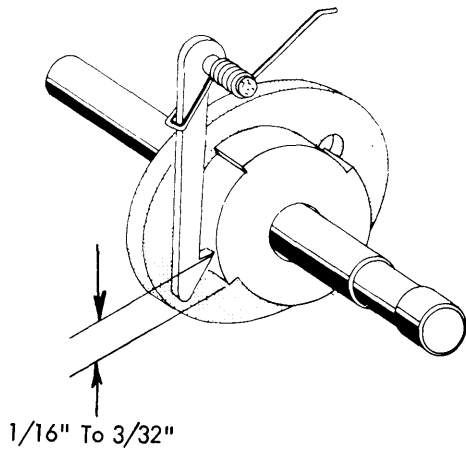

FIGURE 30. Radial Position of Cycle Clutch Collar
c. Radial position of the collar - (The position of the collar directly controls the radial position of the left hand end of the cycle clutch spring with respect to the cycle shaft. It determines how much the spring clutch will be expanded when the cycle clutch sleeve is latched and the cycle shaft is in its rest position.) Adjust the collar so that when a zero tilt, negative-five rotate character is hand cycled the cycle clutch spring will begin to slip (expand) when the cycle shaft is 1/16" to 3/32" from its rest position measured on the surface of check ratchet (Fig. 30).